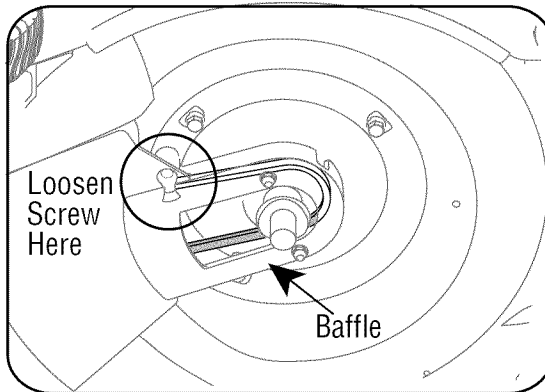

Figure 13
5. Loosen self-tapping screw that secures deck baffle to the deck. See Figure 13.